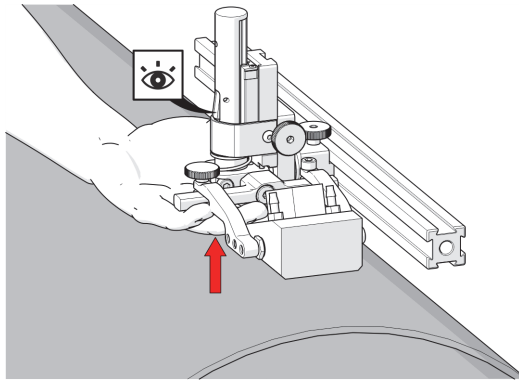
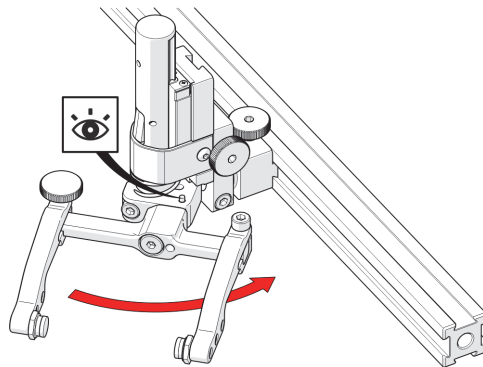

Figure 2-77 Latch probe holder
Figure 2-83 Stop post locates 90°
1. Ensure that the probe holder is latched in the upper position. Lift the probe holder until the latch is fully exposed and snaps out to lock (see Figure 2-77 on page 99).
1. Ensure that the probe holder is latched in the upper position (see Figure 2-77 on page 99).
To return the transverse adjustment to neutral (90°), ensure the probe holder is latched in the upper position (see Figure 2-77 on page 99). Rotate the yoke until the stop post contacts the base of the probe holder. Then tighten the transverse adjustment screw (Figure 2-83 on page 102).
1. Ensure that the probe holder is in latched, upper position (see Figure 2-77 on page 99).